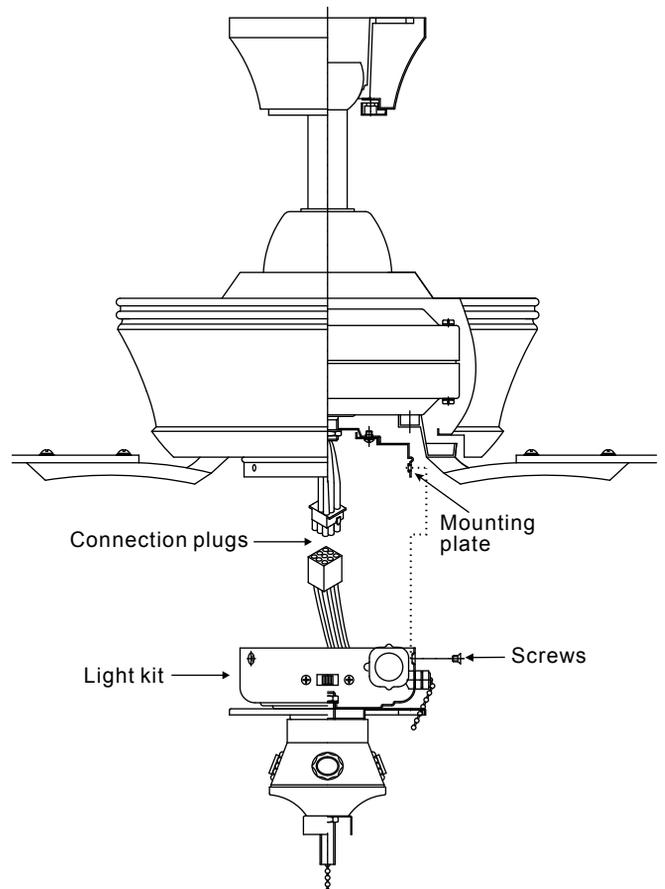

Figure 14
2. While holding the switch housing under your fan, snap together the wire connection plug. (Fig. 14)
3. Raise the light kit to the mounting plate until the holes in light kit and mounting plate line up. Reinsert screws to secure in place. (Fig. 14)